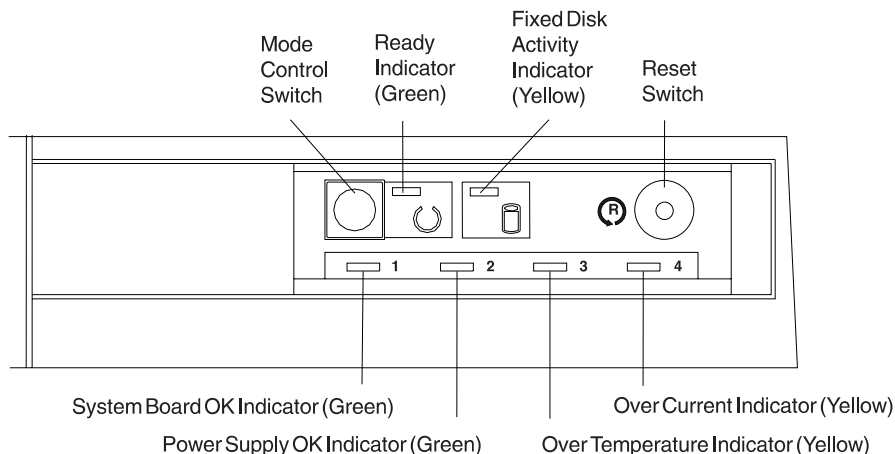

Figure 1-1. Typical Operator Panel. 4693 Models 421 and 321 do not have a Fixed Disk Activity Indicator.
- Observe the indicator lights on the operator panel. See Figure 1-1 on page 1-3. The normal condition of the lights are: